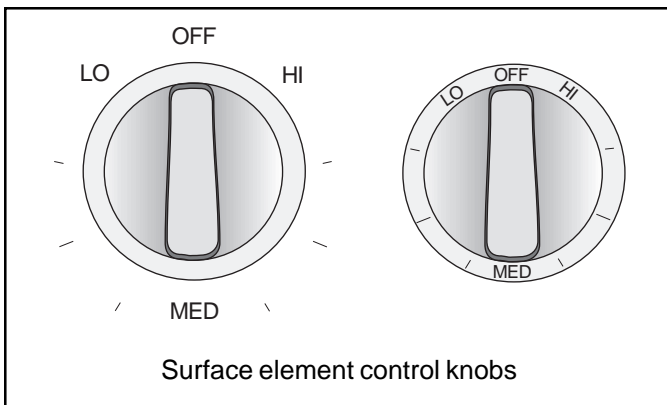

Figure 9
2. Push in and turn surface element control to desired setting. (Figure 9)